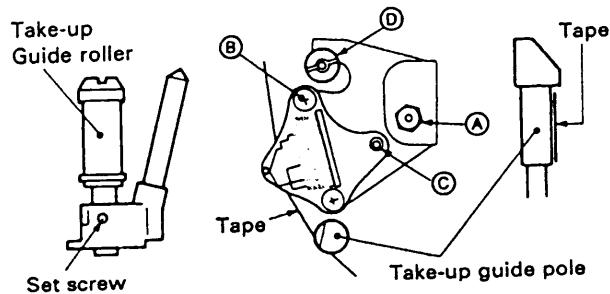

Fig. 7-6 Take-up guide pole
- b) If the tape separates from the guide or wrinkling occurs at the take-up guide pole, adjust by turning screw © of the Audio/CTL Head as shown in Fig. 7-6.